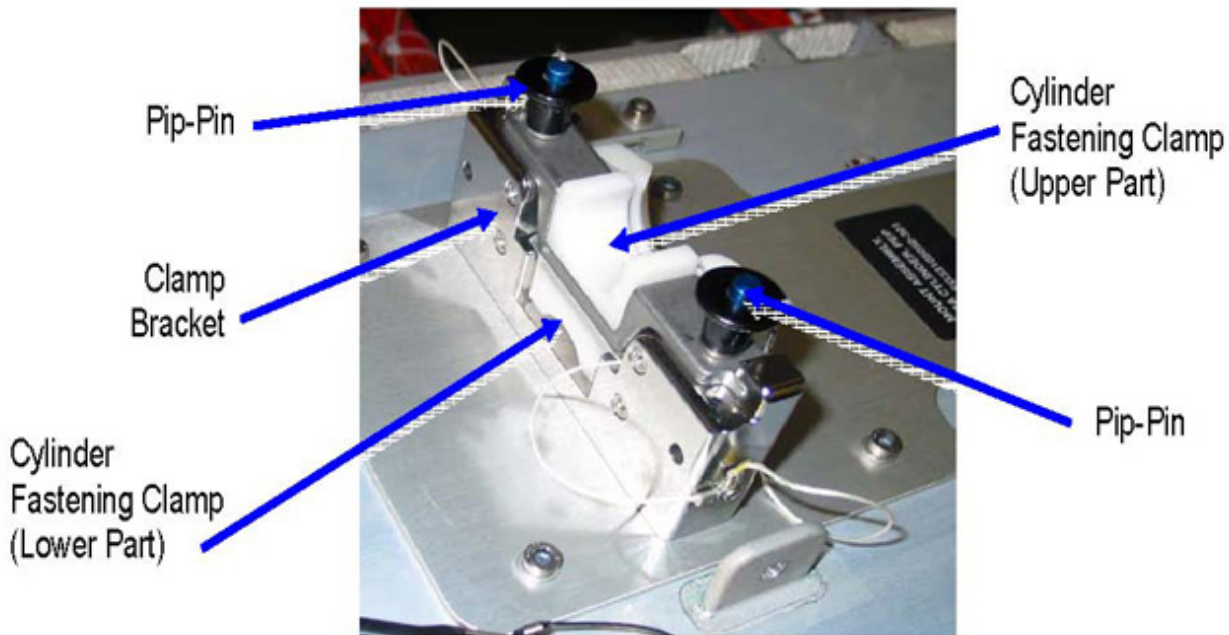

Figure 1-4 Cylinder (O2 Bottle) Fastening Clamp (On-Orbit Configuration)
- 1.3 Re-insert upper / lower part cylinder fastening clamp upside down into clamp bracket, secure with pip-pins (2). Refer to Figure 1-4.